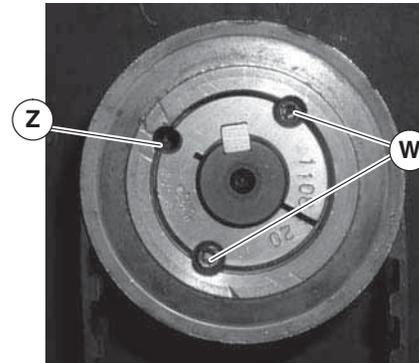
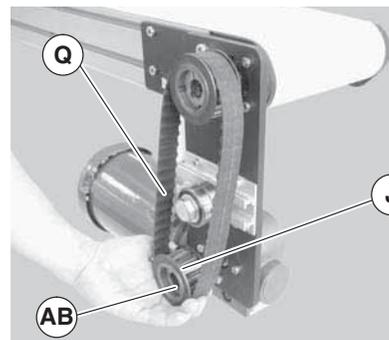

Figure 17
Figure 18
If drive pulley (Figure 18, item J) is replaced, wrap timing belt around drive pulley and complete step 3.
4. Loosen taper-lock screws (Figure 17, item W) and remove drive pulley: Insert one (1) of taper lock screws (W) in remaining hole (Z). Tighten screw (W) until pulley is loose. Remove pulley (Figure 18, item J), taper hub assembly (AB), and timing belt (Q)
Drive pulley (Figure 18, item J) is removed. Wrap timing belt around drive pulley and complete step 12.